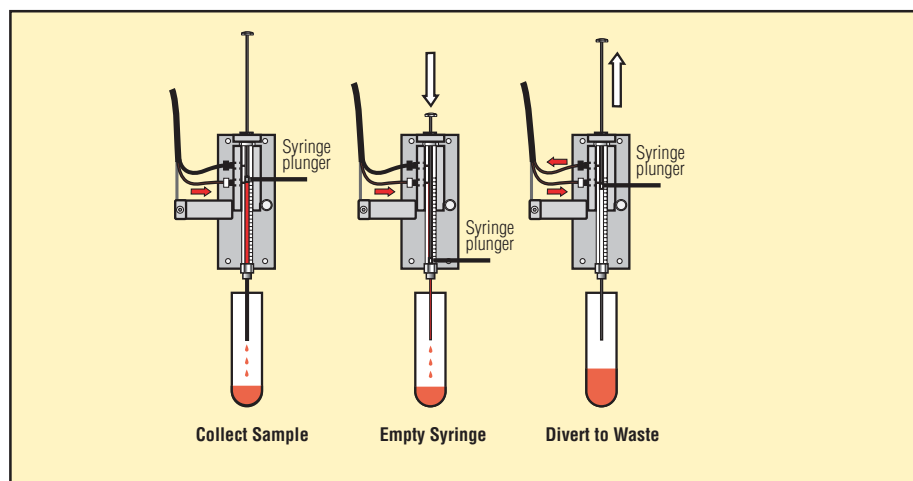

Figure 5. Syringe valve with low collection dead volume.
- A unique syringe valve with an extremely small dead volume between the valve and the collection outlet to avoid fraction carryover (Figure 5).